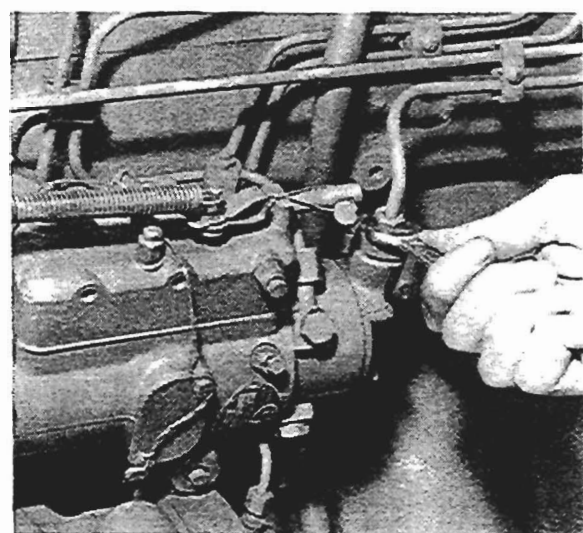
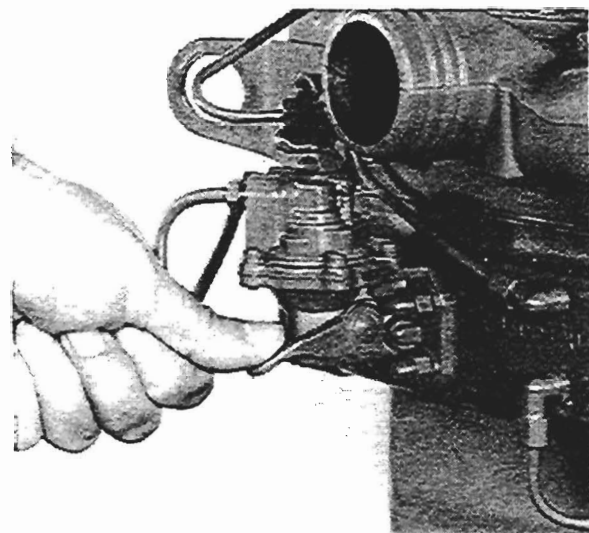

Fig. P2A
Fig. P5
2. Where the fuel filter is fitted lower than the fuel injection pump, loosen the inlet connection at the fuel pump (see fig. P2A) and operate the lift pump to remove any air (see fig. P5). Tighten the connection.
6. Operate the priming lever of the fuel lift pump (see fig. P5) until fuel, free from air, comes from each vent point. If the fuel pump drive cam is on maximum lift, it will not be possible to operate the priming lever and the crankshaft must be turned through one revolution. Tighten the vent screw on filter head cover (where fitted), hydraulic head vent screw and then governor vent screw.
Turn engine or operate hand priming lever (see fig. P5). Fuel will be discharged from the outlet connection every second revolution of the engine or every time the hand priming lever is operated.